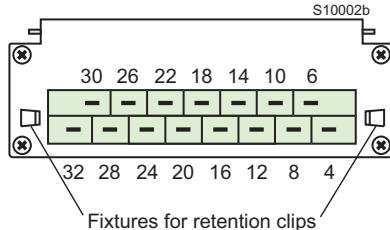

Fig. 24
*Connector retention clips to fasten the H15 connector to the rear plate; see fig. 24. HZZ01209-G consists of 2 clips.*